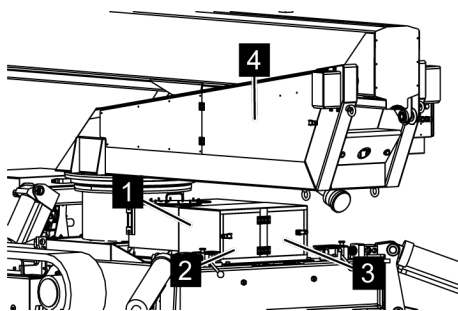

Fig. 105: Shuttle valve cover
2. ➔ Open the doors (Fig. 105/2 and 3) or completely remove the cover (Fig. 105/1).
For platform operation, the doors (Fig. 105/2 and 3) must remain closed.
3. ➔ Open the door (Fig. 105/4).